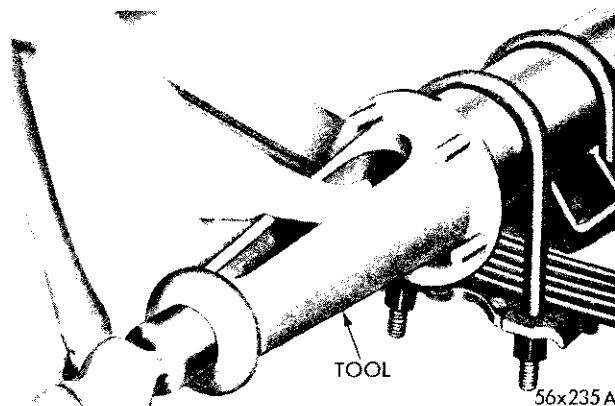

Fig. 7—Installing Axle Drive Shaft Bearing Cup
- (3) Working from the same side of the axle housing, lubricate the axle shaft bearing with multi-purpose gear lube and install the axle shaft.
- (4) Install the bearing cup with the installing Tool C-413 (Fig. 7). Make certain the bearing cup is driven into the axle housing until the face of the installing tool bottoms against the shims, **not the housing flange**. Remove tool and install the brake support, lockwashers, and nuts. Tighten nuts 30 to 35 foot-pounds torque.
- (5) Working from the opposite side of the axle housing, lubricate the bearing and install the other axle shaft until it contacts the axle shaft thrust block.
- (6) With a fiber mallet, lightly tap the end of the axle shaft against the thrust block. This will force the opposite axle shaft bearing to seat in its cup.
- (7) Install the bearing cup with Tool C-413 (Fig. 7). The bearing cup must be gently driven into position until the axle shaft end play just disappears without pre-loading the bearing. The bearing cup will protrude slightly beyond the face of the axle housing flange.
- (8) While the Tool C-413 is held firmly against the bearing cup, insert a feeler gauge between the axle housing flange and the face of the tool to measure the clearance.
- (9) To determine the thickness of the shim pack required to obtain .013 to .018 inch axle shaft end play, add a minimum of .013 inch to the feeler gauge reading. Compare the thickness of this shim pack with the thickness of the opposite pack. If the difference in the thickness of the shim packs exceeds .020 inch, divide the